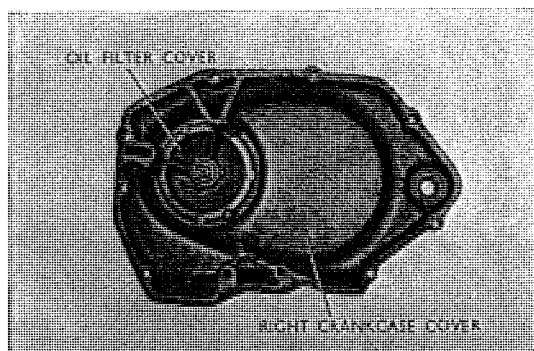

Fig. 3.54 Right crankcase cover
3. By removing the 6×20 screw, the neutral switch rotor is separated from the gear shift drum. (Refer to Fig. 3.54)
The right crankcase cover, as well as the left crankcase cover, performs the role protection. The oil filter cover is fitted to the case cover and provides for passage of lubricating oil in both directions. (Refer to Fig. 3.54)